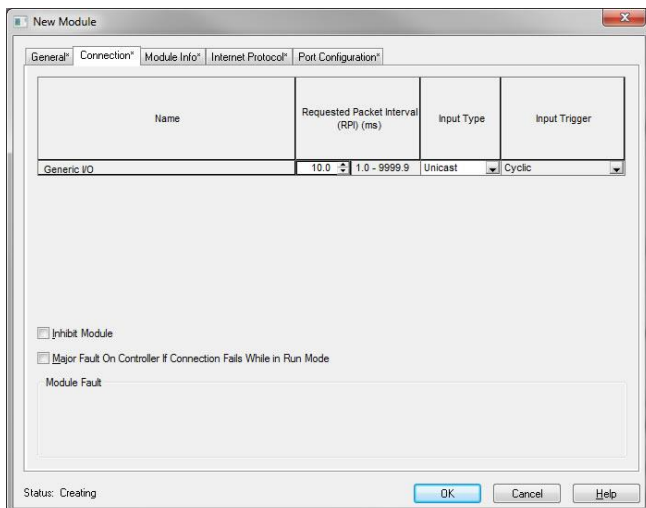

Figure 25: AOP New Module Properties Connection Tab
- 13) Click on the “Connection” tab. Refer to Figure 25.